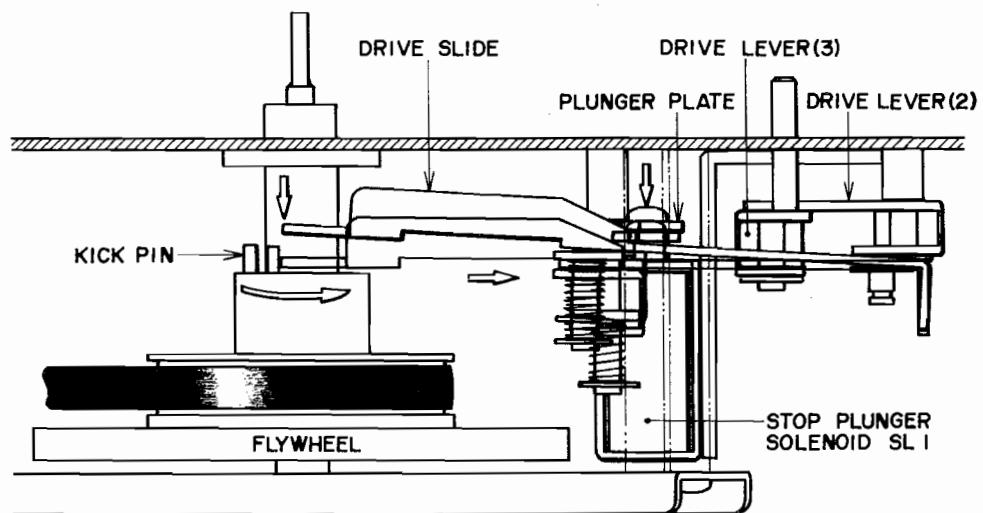
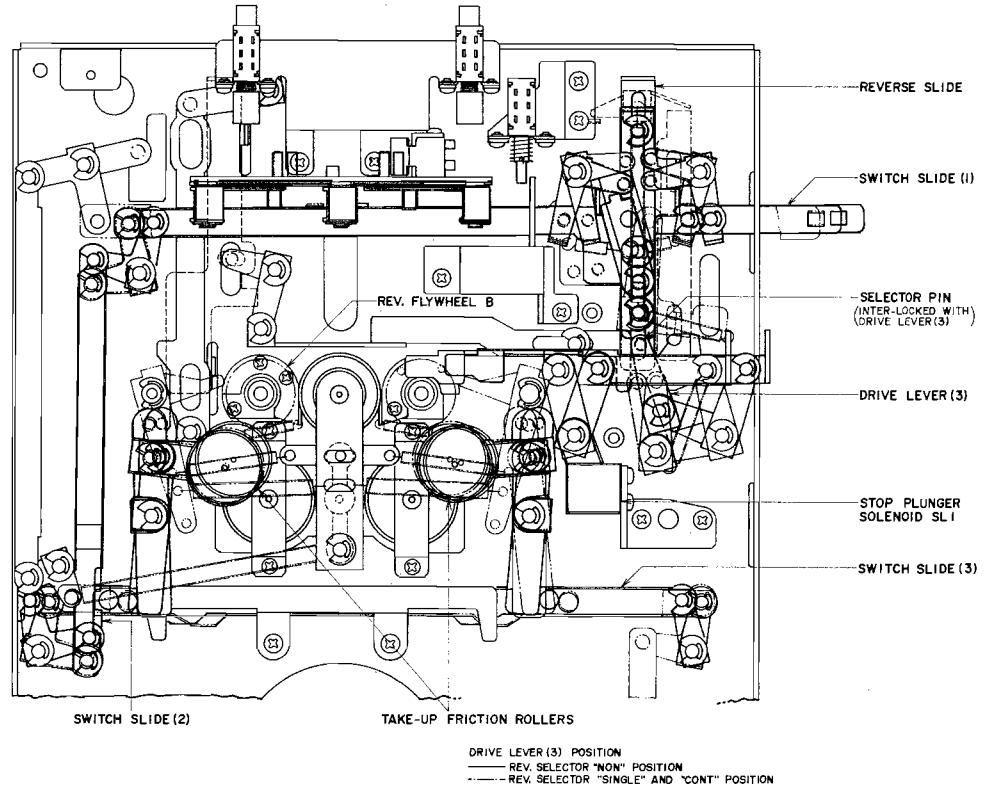

Fig. 29
Fig. 32 Reverse Selector : SINGLE ↪ From FWD to REV Operation
(Refer to Figs. 29, 30)
- b) When Stop Plunger Solenoid SL1 operates, drive lever (1) which is interlocked with the stop plunger solenoid and the drive slide are momentarily pulled downward. (Refer to BASIC FUNCTION OF KICK MECHANISM, Fig. 29)
- c) When Stop Plunger Solenoid SL1 operates, drive lever (1) interlocked with the plunger plate and the drive slide, are momentarily pulled downward. (Refer to Fig. 29) At this time, the flywheel kick pin kicks the pulled down drive slide and drive slide moves in right direction.
(Refer to Fig. 32)
- a) When FWD recording or playback ends and the tape stops, because the REV Selector is set to SINGLE ↗ and drive lever (3) is right above the reverse slide as shown in Fig. 32, drive lever (3) selector pin depresses the reverse slide by means of the basic function of the kick mechanism (Refer to Fig. 29).
- * For mechanism change from FWD to REV, refer to Item 3) and Fig. 32.